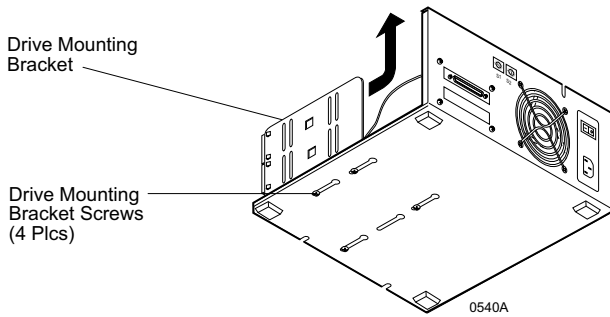

Figure 10: Removing the Drive Mounting Bracket (DS100 2-Bay Shown)
2. Loosen but do not remove the four (4) screws that secure the drive mounting bracket to the DS100 chassis (Figure 10).